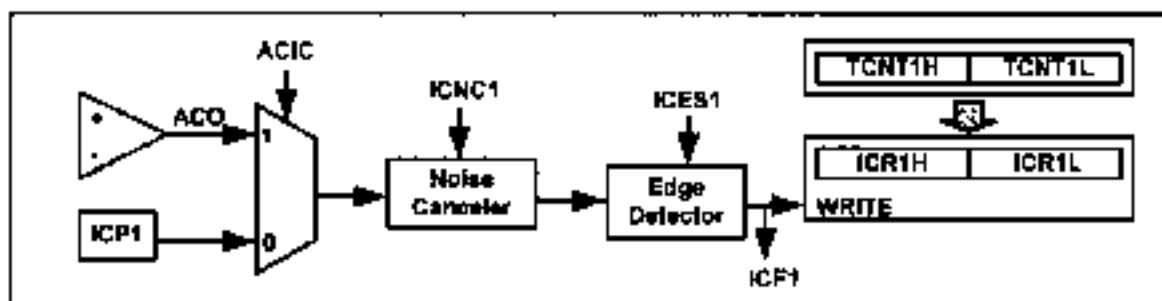

Figure 15-17. Capturing Circuit
As shown in Figure 15-17, there are two event sources: (1) the ICPI pin, which is PORTD.6 in ATmega32, and (2) the output of the analog comparator. We can use the ACIC flag to select the event source. ACIC is a bit of the ACSR register, as shown in Figure 15-18.
**ACO (Analog Comparator Output)** The output of the analog comparator is connected to the bit ACO is read only. See Figure 15-17.
**ACIC (Analog Comparator Input Capture Enable)** When the bit is one, the input capture is triggered by the Analog Comparator; otherwise, the ICPI pin (PD6 in ATmega32) provides the capturing signal. See Figure 15-17.
As shown in Figures 15-17 and 15-19, we use the TCCR1B register to select the type of edge detection and activate/deactivate the noise canceller unit.